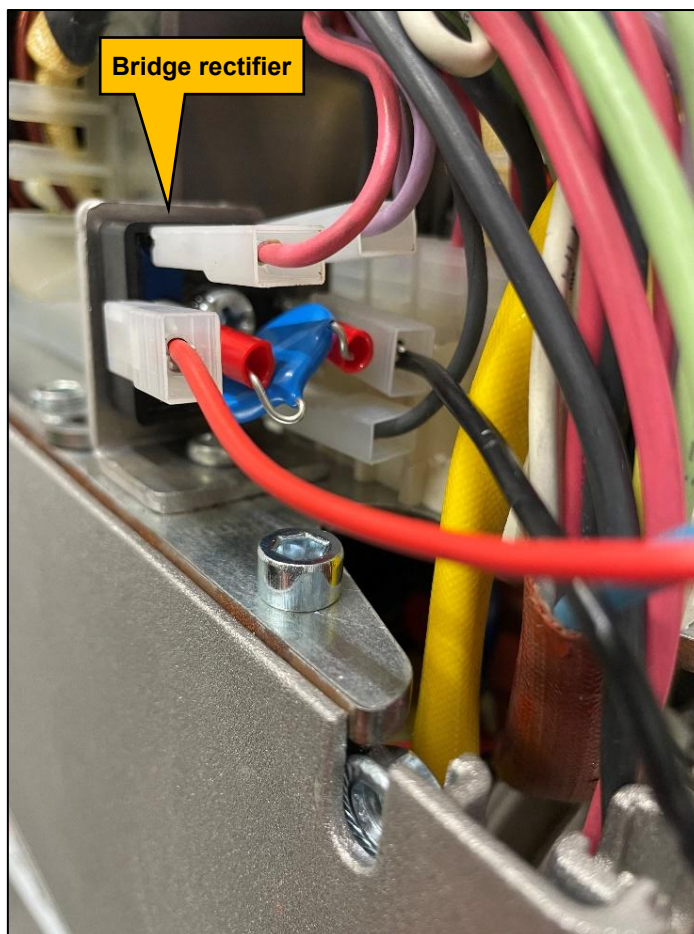

Figure 10
- ☐ With the generator cover off (see A500199 Installation Manual at VMAC Manuals & Illustrated Parts Lists for disassembly instructions), locate the bridge rectifier (**Figure 10**)